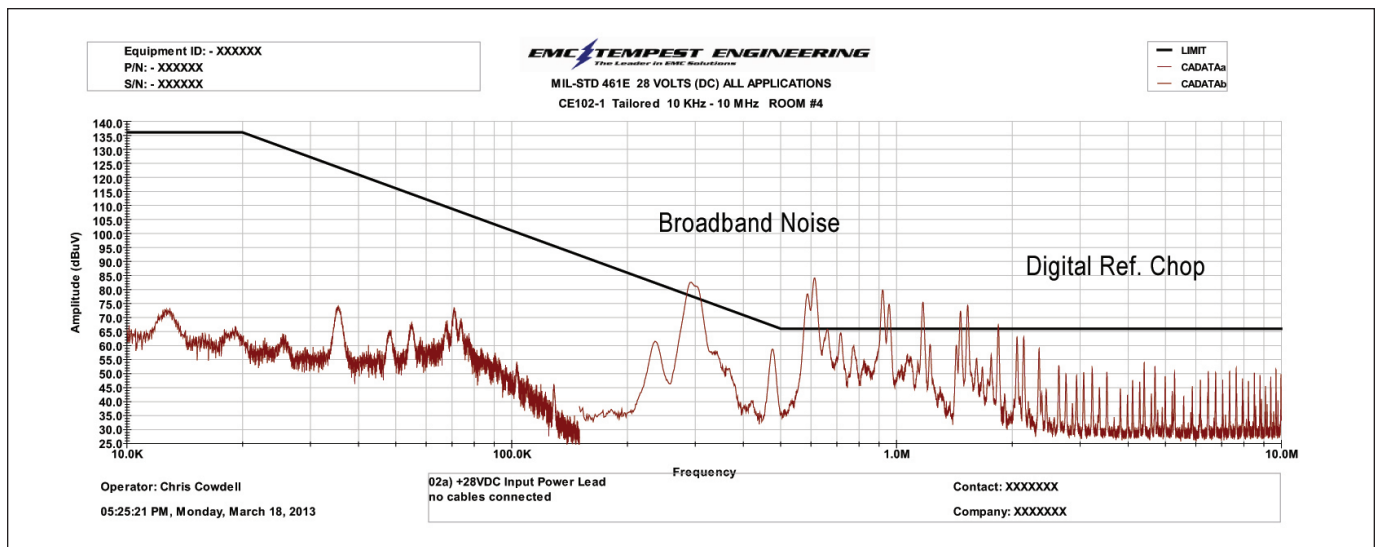

Figure 1
We measured and verified the Test House initial results. (Figure 1, page 34)
**Figure 1:** A component radiates into the driver seat's metallic structure via an electrical near field. The driver's seat that is excited in this way radiates emissions into the vehicle's antenna that interfere with radio reception.